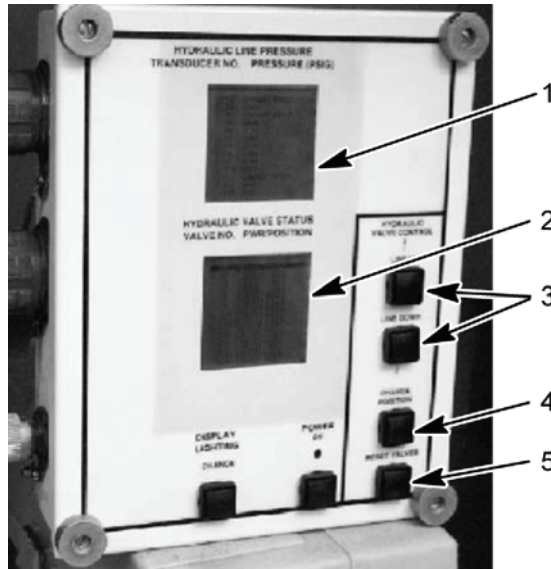

Figure 9. HDC Control Box
- Reset all HDC solenoid valves by selecting the RESET VALVES button (Figure 9, item 5) on the HDC control box.
- For front left (left forward manifold): Using LINE UP or LINE DOWN button (Figure 9, item 3), select V9 on the HDC display (Figure 9, item 2). Close V9 on the HDC display (Figure 9, item 2), by selecting the CHANGE POSITION button (Figure 9, item 4) on the HDC control box.
- Have assistant start engine and move the SPRUNG/UNSPRUNG control valve lever to SPRUNG mode. Read transducer T-7 hydraulic pressure on the HDC display (Figure 9, item 1).